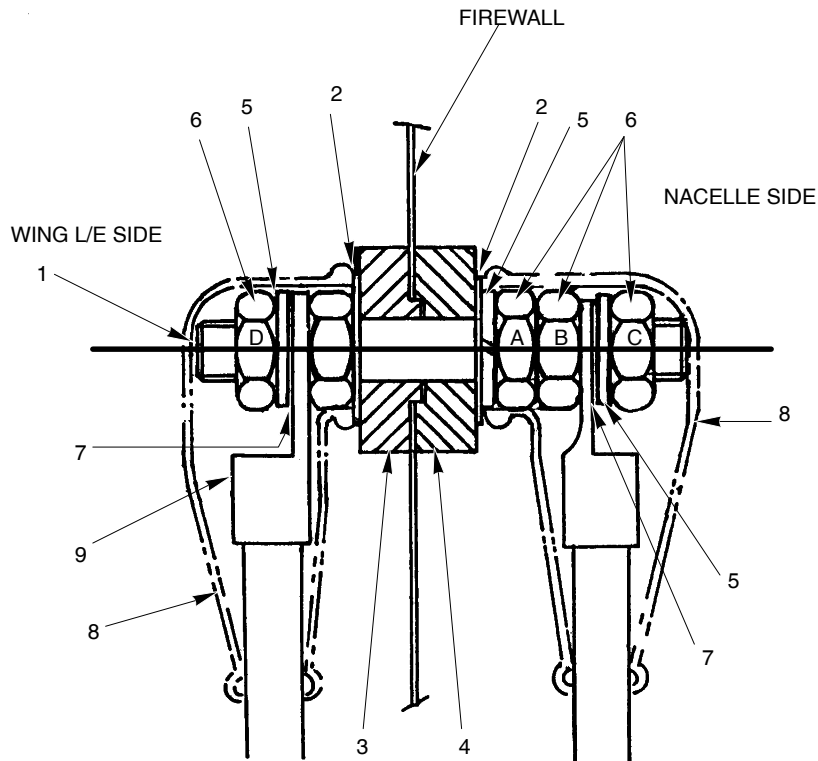

Figure 1 Generator Cables and Stud Assembly
I.P.C. Chap 71–50–00 Fig 1, Mod N724 data.
IPC, Chap 71–50–00 Fig 1.
- (1) Gain access to the generator cable connections at both ends of Stud PN I/N-81-424, passing through the firewall in the wing leading edge (Refer IPC Chap 71-50-00 Fig 1, Item 23).
(all item numbers refer to Fig.1.)